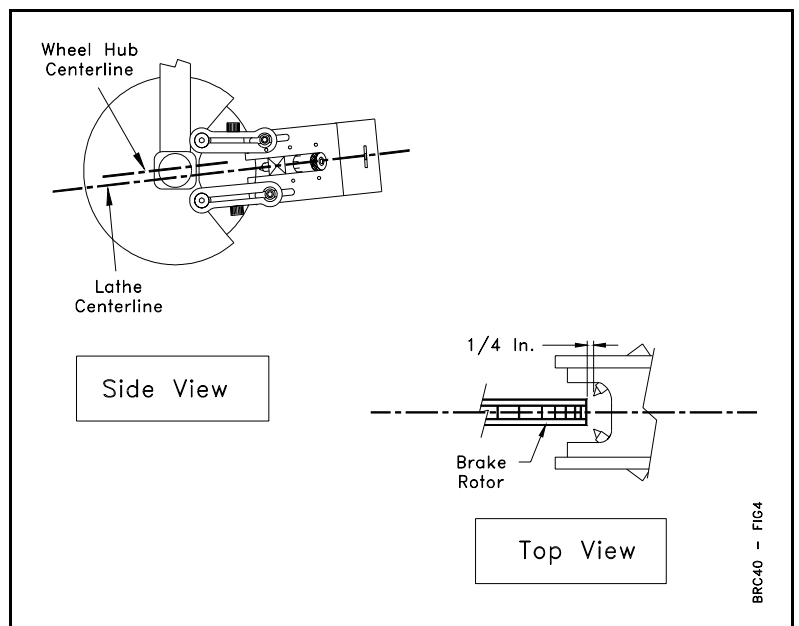

Figure 5 Positioning the Lathe
- Position the Lathe so that the Lathe centerline is slightly below the center of the wheel hub and the brake rotor is centered between the side plates of the Lathe. Refer to Figure 5.